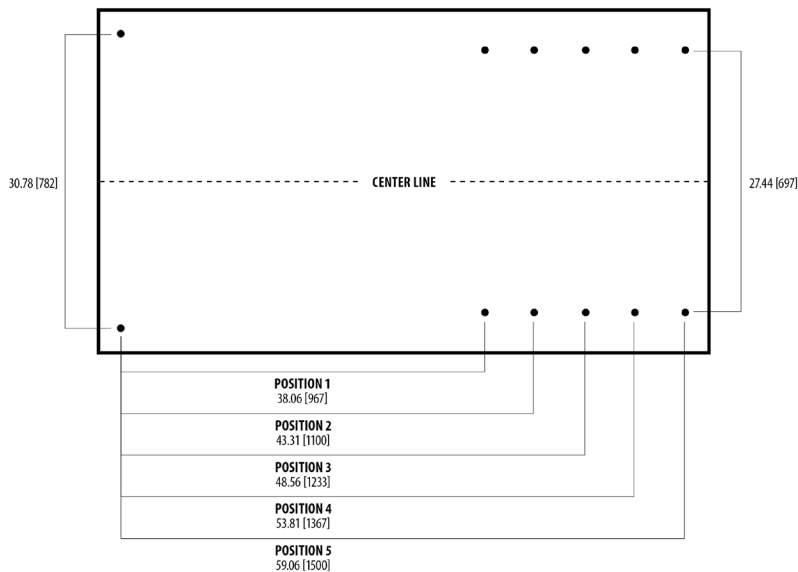

Figure 10.1
3. Install anchors to the surface that Wheel Base will mount to, at the location desired. Use Figure 10.1 for measurements.